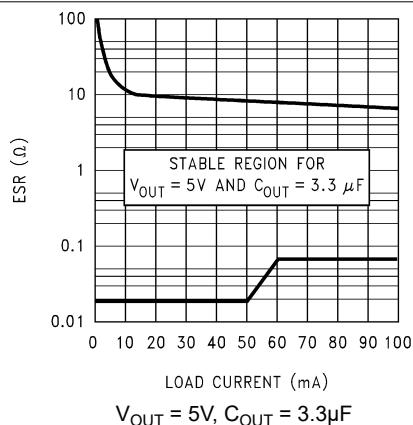
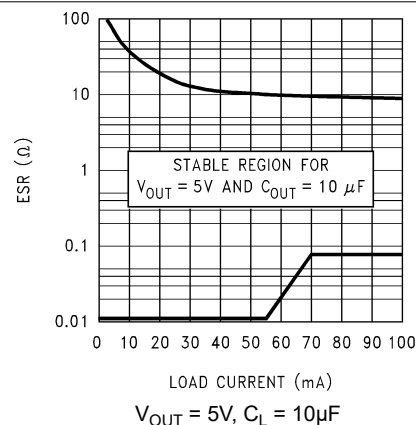
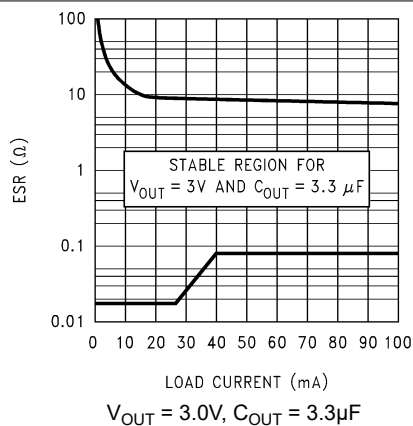
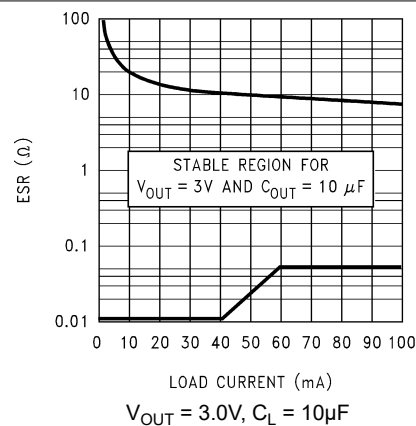

Figure 7-3. 5V, 3.3 $\mu$ F ESR Curves (Legacy Chip)
Figure 7-4. 5V, 10 $\mu$ F ESR Curves (Legacy Chip)
Figure 7-5. 3.0V, 3.3 $\mu$ F ESR Curves (Legacy Chip)
Figure 7-6. 3.0V, 10 $\mu$ F ESR Curves (Legacy Chip)
The output capacitor must meet both the requirement for minimum amount of capacitance and equivalent series resistance (ESR) value. Curves are provided that show the allowable ESR range as a function of load current for various output voltages and capacitor values (see Figure 7-3, Figure 7-4, Figure 7-5, and Figure 7-6).
- ESR range: See Figure 7-3, Figure 7-4, Figure 7-5, and Figure 7-6.